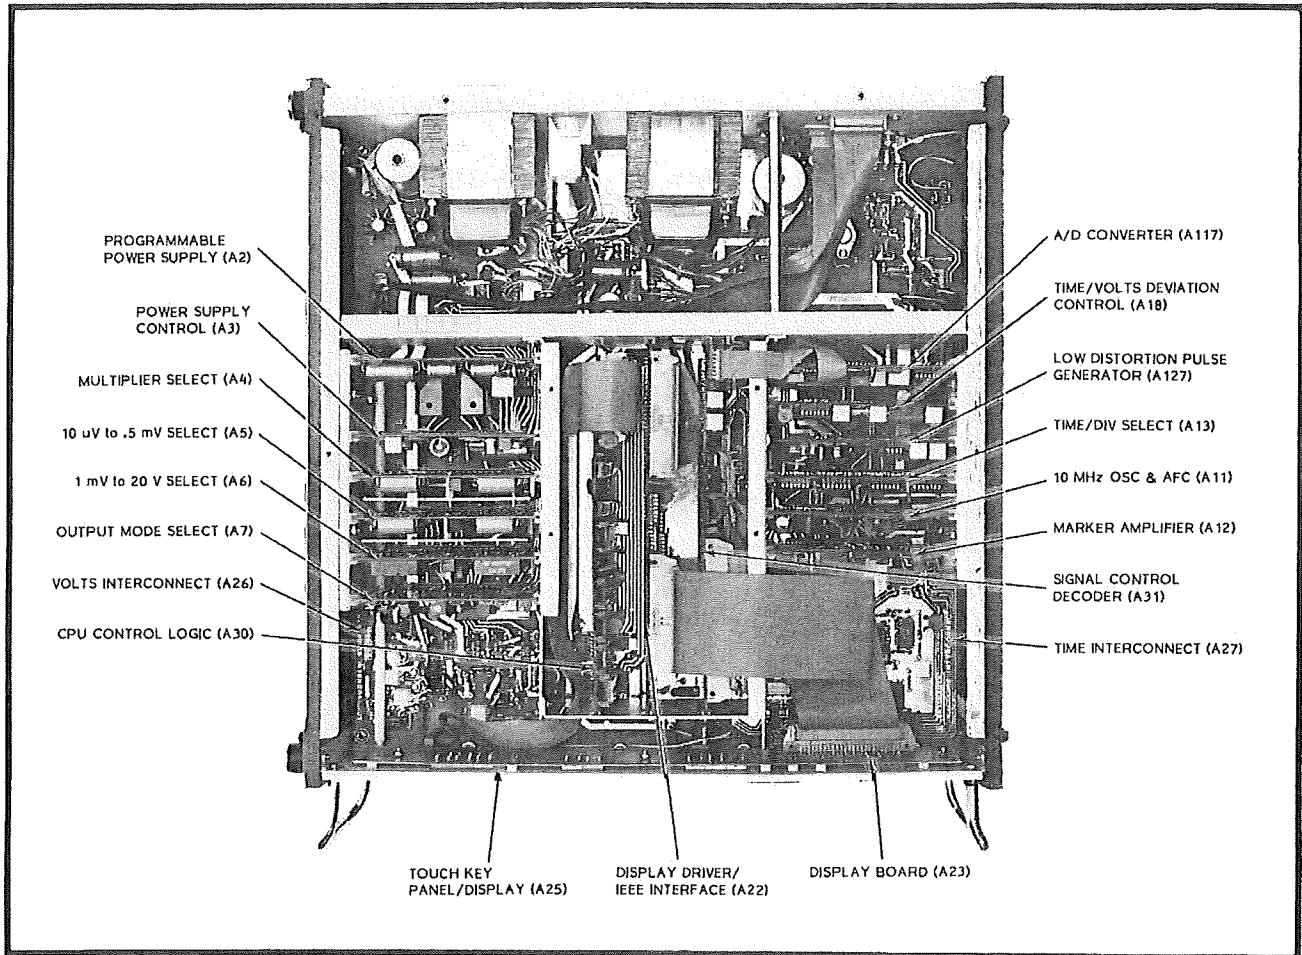

Figure 5-8. Location of 6127B Circuit Board Assemblies
a. Connect the equipment shown in figure 5-8. Be sure to use the 61272C Amplitude Comparator Head with the 6127B.
5-24. Location of Circuit Board Assemblies. Refer to figure 5-8 for the location of the 6127B circuit board assemblies.